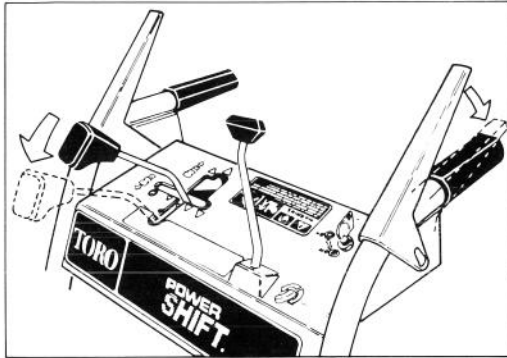

Figure 11
2. To move wheels to front or rear position, move shift control fully forward to Power Shift position and hold (Fig. 11).
3. Fully engage traction drive lever to move wheels into Power Shift position (Figs. 11 & 12).